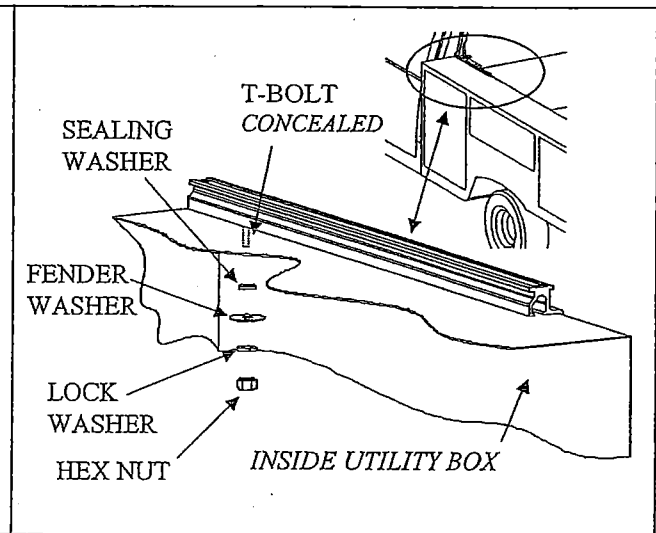

Figure 3B
10. Begin assembling the hardware by inserting the rubber Sealing Washer onto the bolt protruding inside the utility box. Push Sealing Washer up until flush against the underside of the box. Then insert, in order, the Fender Washer, Locking Washer and the Hex Nut. Hand tighten the assembly. Repeat for each bolt. (See Fig 3B)